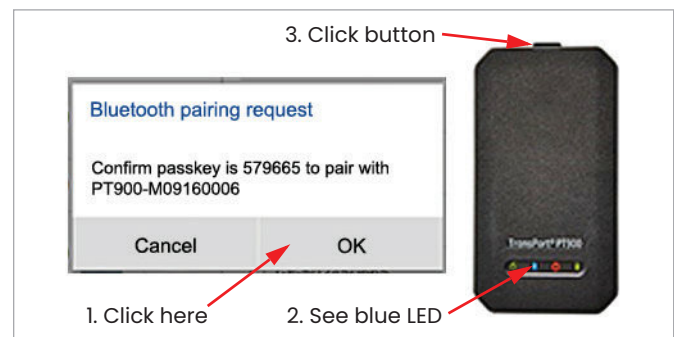

Figure 67: Confirm the pairing
- During the pairing process, PT900 security features require the user to confirm the pairing (see *Figure 67* below). When the Bluetooth pairing request appears on the tablet (ignore the random passkey), click *ok* to continue. Then, confirm that the blue LED on the transmitter is flashing and click the transmitter power button.